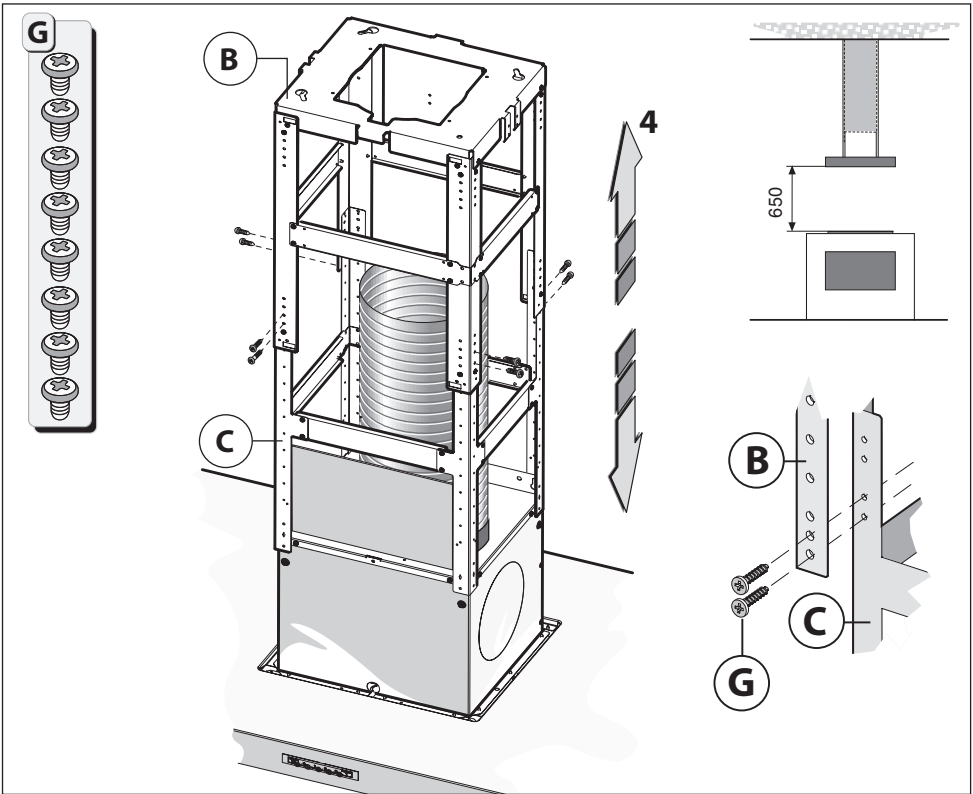

Fig.5
- Adjust the desired height paying attention to the quota indicated in figure 5 and block it with the 8 screws **G** provided.